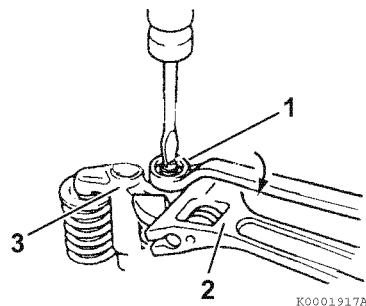

Figure 6-81
4. Loosen the valve bridge adjusting screw lock nut (1, **Figure 6-81**) while holding the bridge (3, **Figure 6-81**) with a wrench (2, **Figure 6-81**).